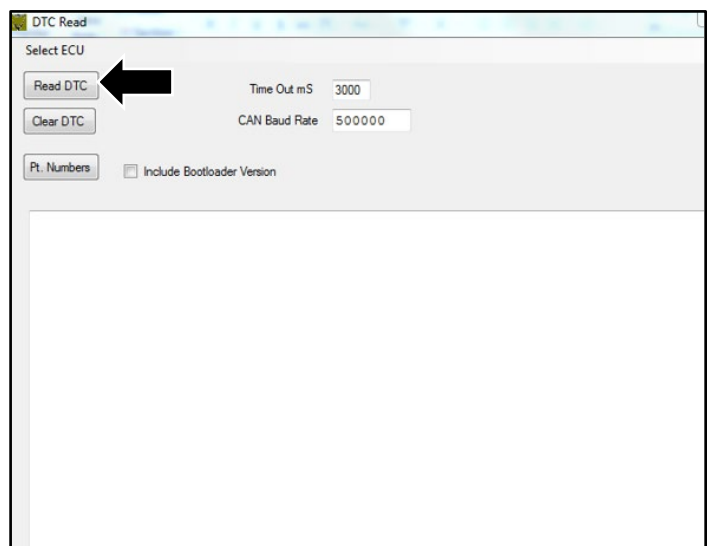

Figure 6
9. In the “DTC Read” window, click the ‘Read DTC’ button, (refer to Figure 6).